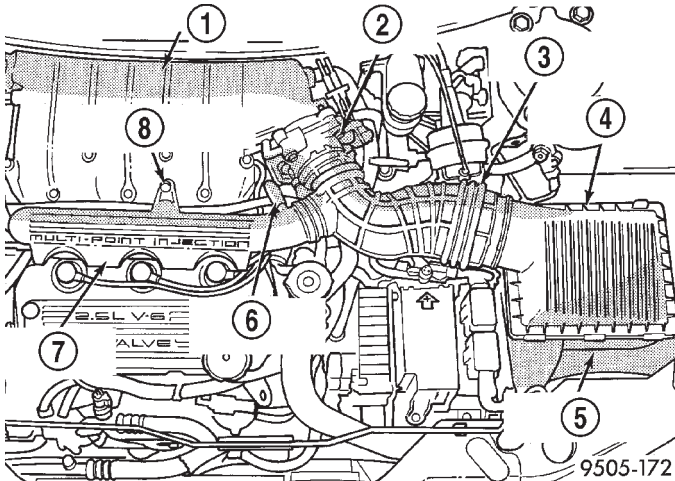

Fig. 64 Engine Air Intake System Components
(3) Remove the PCV hose (Fig. 64) from the air chamber located on the front of the intake manifold. Remove bolt (Fig. 64) attaching the air chamber to the intake manifold. Then unlatch lid of air cleaner from air cleaner housing and loosen clamp attaching air inlet hose to throttle body (Fig. 64). Remove the air cleaner lid, air inlet hose and air chamber (Fig. 64) as an assembly from the engine.